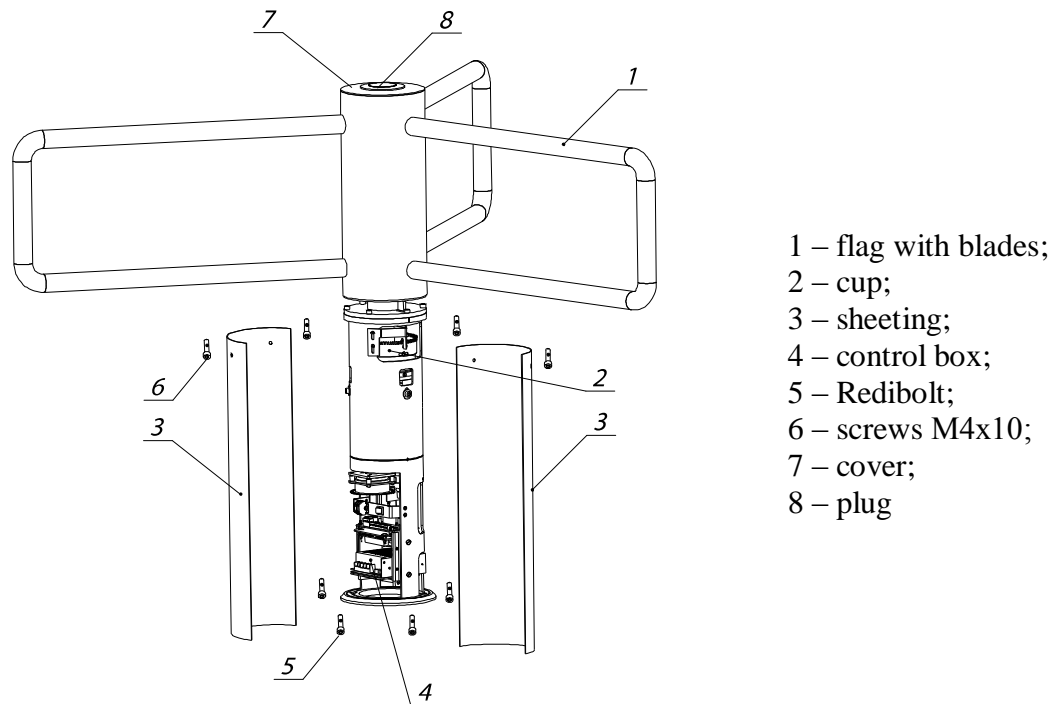

Figure 1 – Design of the rotor turnstile T3.POH.XC
1.4.1.1 The turnstile housing consists of cup 2 with fixed base plate (see the Figure 1). Flag 1, consisting of sheeting and three blades from stainless steel, is put on top of cup. The blades, made in the form of tube, are radially placed at the angle of 120°. Cover 7 with plug 8 is fixed on top of the turnstile housing. Bottom surface of the turnstile housing is sheeting 3 consisting of two detachable parts.